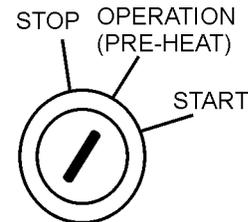
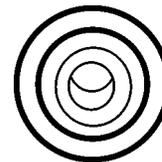

Figure 42. Ignition Switch (Operation Pre-Heat Position)
Figure 43. Pre-Heat Indicator Lamp
6. Preheat the engine **glow plugs** by turning the ignition key (Figure 42) to the **“OPERATION”** position.
7. When the preheat lamp illuminates (Figure 43), turn the ignition key to the **“START”** position. Once the engine starts, release the ignition key and allow it to return to the **“OPERATION”** position (Figure 42).